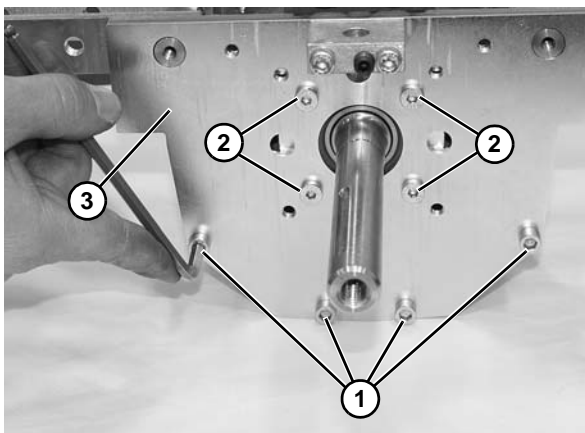

Figure 144
- Remove four socket head screws (Figure 144, item 1).
- Remove four low head cap screws (Figure 144, item 2) and remove side plate (Figure 144, item 3).